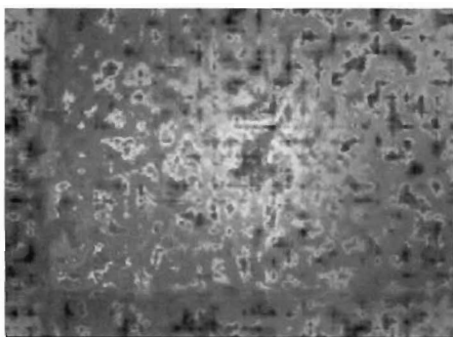

Figure 7
9. Touch up the seams that cross the image. Use a combination of cut-and-pasted pieces from other parts of the image that look similar, along with Blur (smooth or smear) to fuzz out the seams (Figure 7).